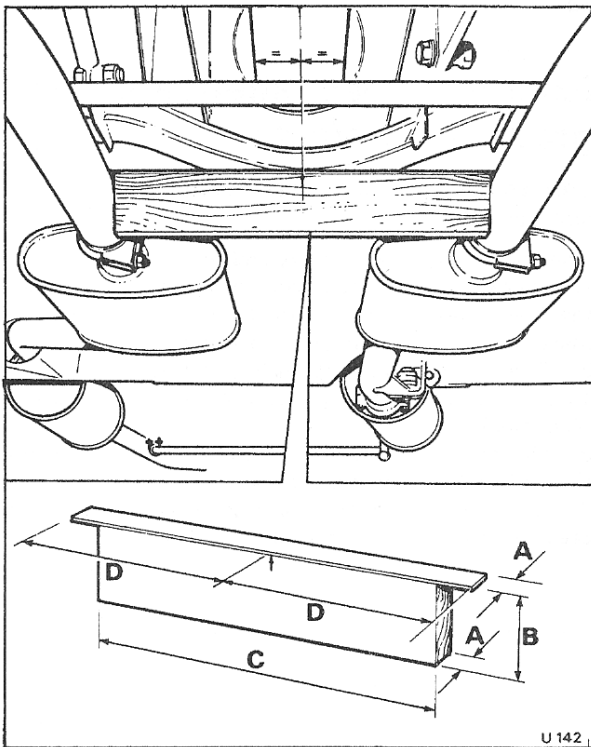

Fig. Q11 Intermediate silencers setting template
6. Set the pipes behind the intermediate silencers equidistant about the centre line of the car. Use a wooden block (see Fig. Q11) fitted between the stub pipes of the intermediate silencers. Align a central mark on the block to the mid-point of the transmission tunnel.